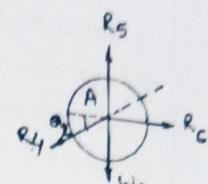

Fig 2.34
FBD of cylinder A; (Fig 2.34)
- 1) Two spheres A & B are resting in a smooth channel as given in fig 2.34. Draw FBD of A & B, find reactions at contact points. $R_A=250\text{mm}$, $R_B=200\text{mm}$ respectively. (Ans: 138.07N, 243.03N, 159.43N, 620.28N)